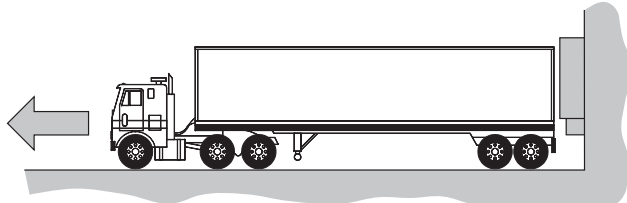

Figure 2: Trailer pulled forward one foot from dock
2. Pull the trailer away from the loading dock approximately one foot, Figure 2.